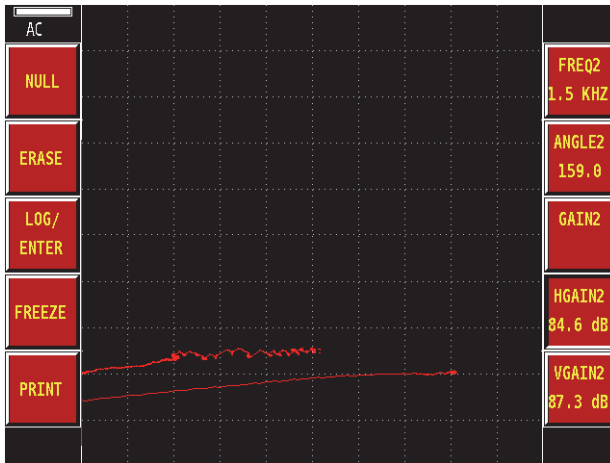
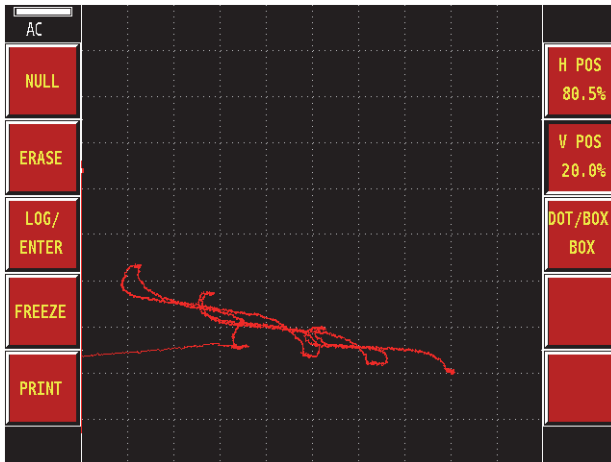

Figure 4-12
Figure 4-17 Complete scan of the reference standard
27. Slide the probe down the center of the standard over the simulated corrosion and observe the signals (see Figure 4-12 on page 86 to Figure 4-17 on page 88).